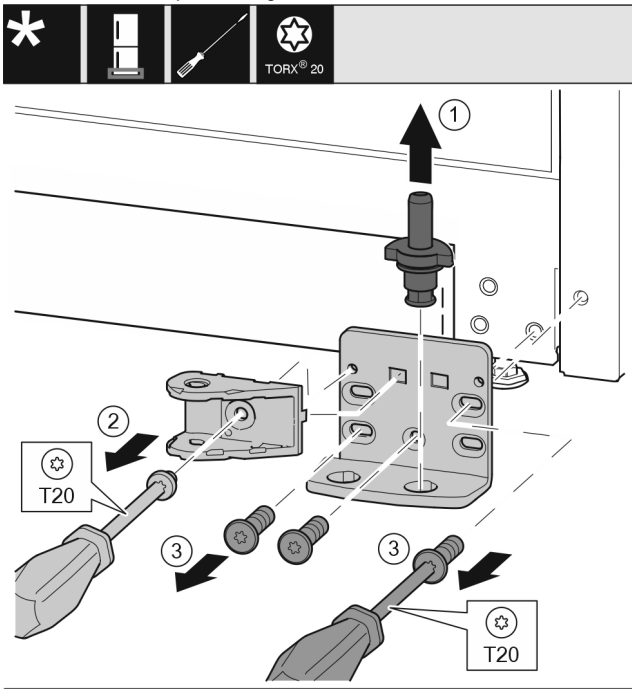

Fig. 45 \*
- ▶ Pull the bearing bolt Fig. 45 (1) out upwards completely.\*
- ▶ Use screwdriver to unscrew the screw Fig. 45 (2) and remove the closing damper connection.\*
- ▶ Use screwdriver to unscrew the screws Fig. 45 (3) and remove the swap bearing block.\*